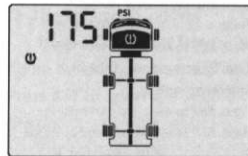

Figure 5-2-1
Enter into parameter setting mode. Press Δ or ∇ to select to figure 5-2-1. Then press **SET** enter into **the first axis high pressure setting**. Press Δ or ∇ to select the high pressure limit alarm value.
- 2 Press Δ or ∇ to select to figure 5-2-1